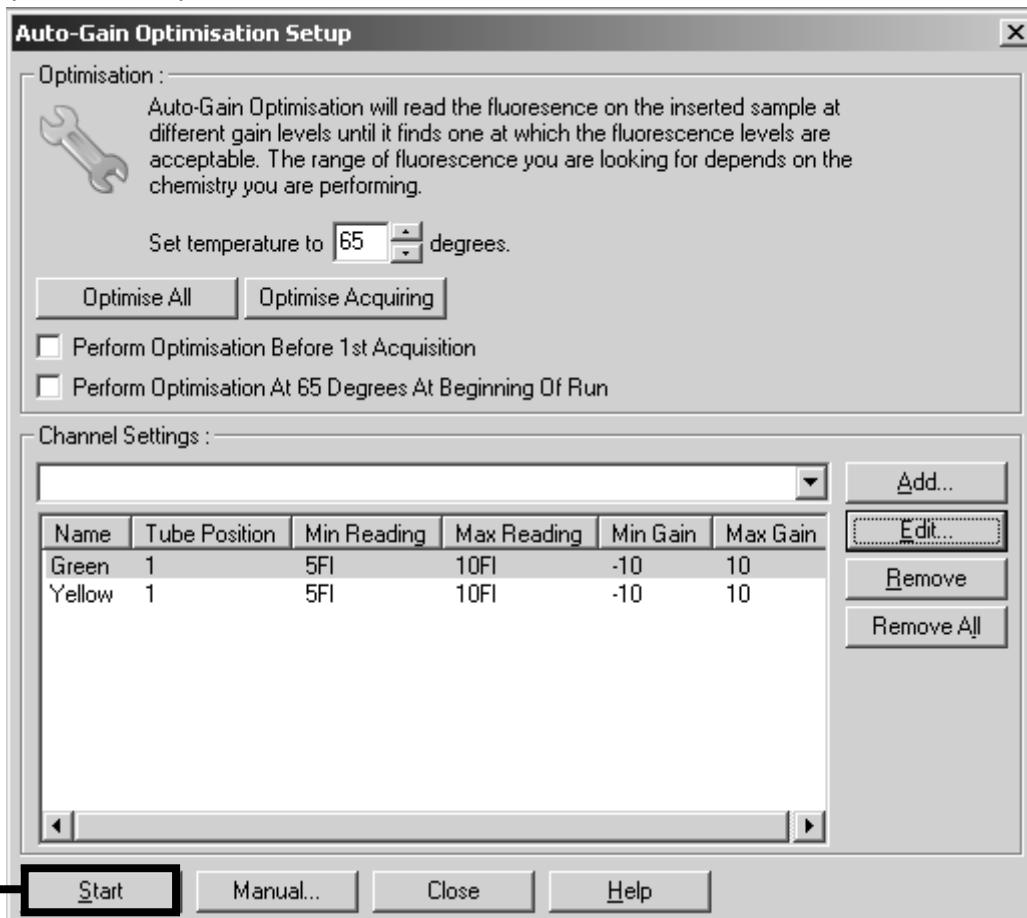

Figure 17. Starting the gain optimization.
11. Click "Start" to begin the gain optimization for the first *artus* assay (Figure 17).